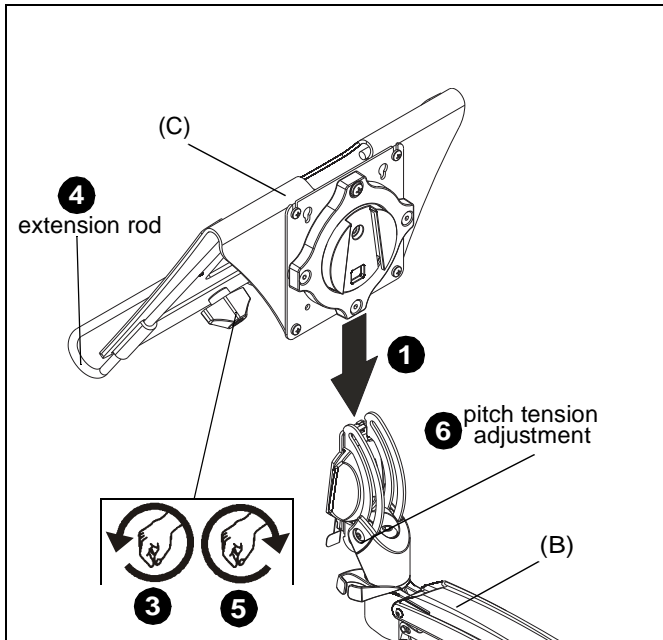

Figure 5
1. Slide laptop tray (C) onto mounting head until quick release tab clicks into place. (See Figure 5)
2. Adjust mounting arm and tray to desired mounting level. See monitor arm installation instructions for adjustment details. (See Figure 5)
3. Turn extension rod tension adjustment knob counter-clockwise to decrease tension. (See Figure 5)
4. Extend laptop extension rod as desired. (See Figure 5)
6. Center laptop on tray and adjust pitch tension as needed to hold tray in desired position. (See Figure 5)